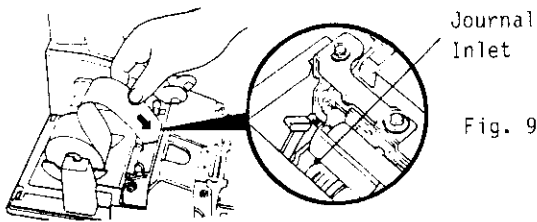

Fig. 9
5. Insert the paper end into the Journal Inlet, feed the paper in while pressing down the {JF} key. (Fig.9)